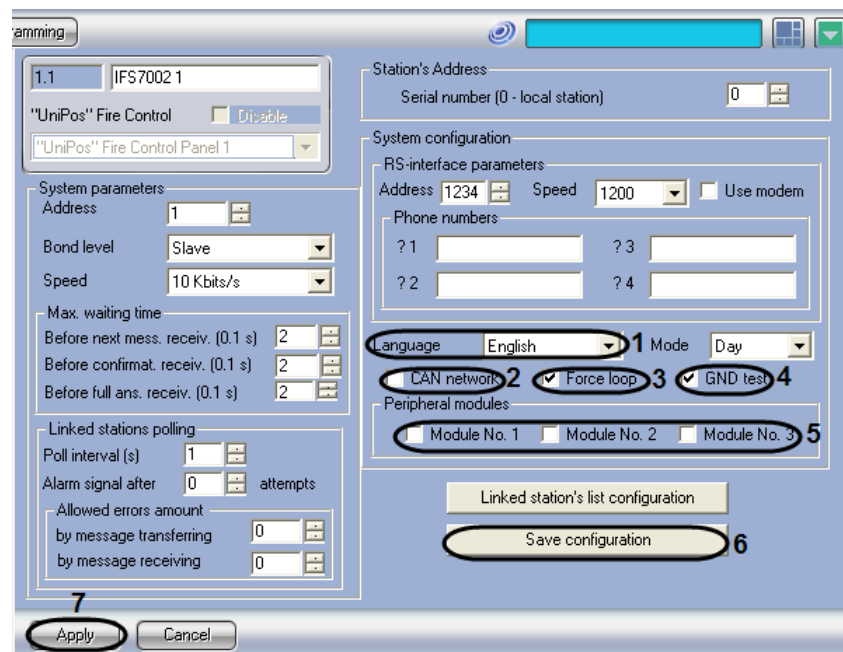

Fig. 3.3—2 Setting up the configuration of the IFS7002 Fire Control Panel
1. Go to the settings panel of the “IFS7002” object (Fig. 3.3—2).
2. From the “Language” drop-down list select the language of the UI for the “IFS7002” FCP (see Fig. 3.3—2, 1).
3. To enable support of the CAN interface check the “CAN network” checkbox (see Fig. 3.3—2, 2).
4. To enable the integrated power circuit check the “Force loop” checkbox (see Fig. 3.3—2, 3).
5. To enable the grounding check of the wiring check the “GND test” checkbox (see Fig. 3.3—2, 4).